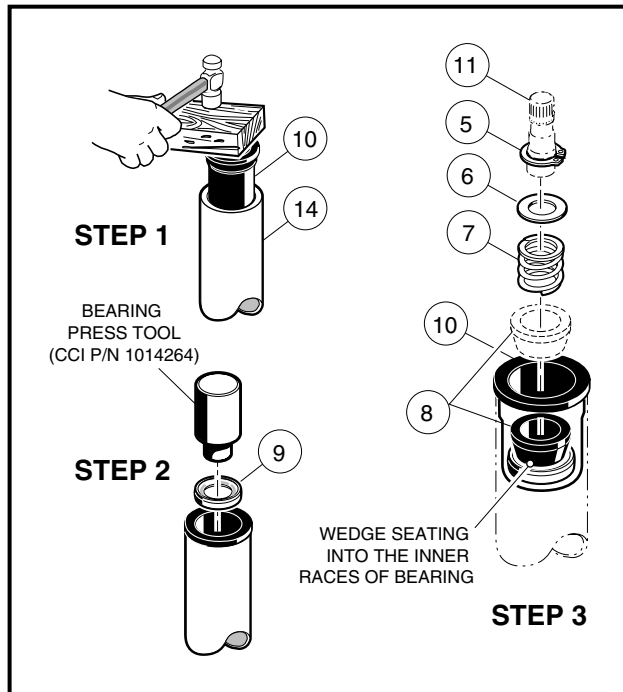
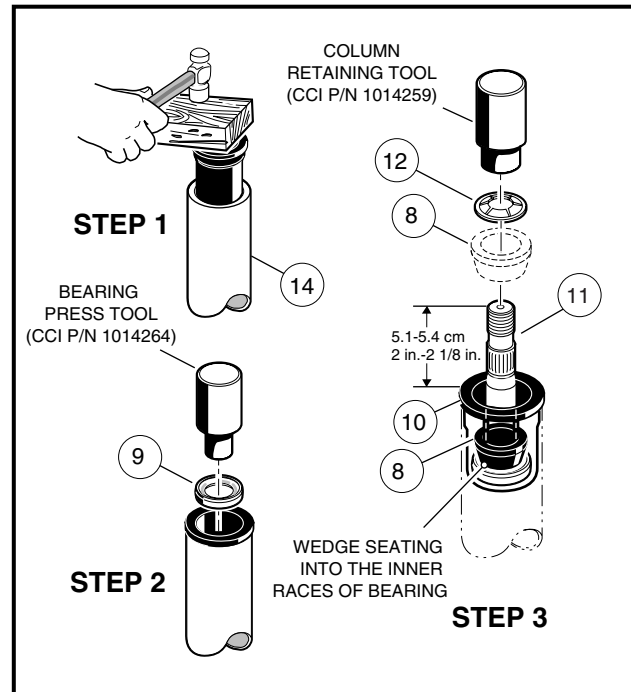

Figure 7-5 Steering Shaft – Bottom End
Figure 7-6 Steering Shaft – Top End
1. Insert bearing seat (10) into both ends of steering tube (14). Place a block of wood on bearing seat and tap lightly on block until bearing seat (10) is fully seated in steering tube (14) (**Figure 7-5, Page 7-5 and Figure 7-6, Page 7-5**).
2. Press the bearing (9) all the way into the bearing seat (10) using a steering column bearing press tool (CCI P/N 1014264) or a metal tube approximately six inches (15.2 cm) long with a maximum outer diameter of 1-3/16-inches (3.3 cm) and a minimum inside diameter of 7/8-inch (2.2 cm). Be sure the bearing is installed in the bearing seat as shown (**Figure 7-5, Page 7-5**) so the wedge (8) will ride against the inner race of the bearing.
3. Install the wedge (8), spring (7), washer (6) and snap ring (5) onto the bottom end of the steering shaft (11) (**Figure 7-5, Page 7-5**).
5. Turn the assembly over and place the shaft (11) on a bench. Install the wedge (8) and retaining ring (12) onto the top of the shaft. Be sure the prongs on the retaining ring face up and away from the wedge. Use a steering column retaining ring tool (CCI P/N 1014259) to seat the retaining ring to the proper depth. Support end of tube while pressing. If you do not have the recommended tool, use the same tube as was used in step 2 to press the retaining ring onto the top of the shaft. The retaining ring should be pressed onto the shaft until 2 to 2-1/8-inches (5.1-5.4 cm) of the shaft extends from the top of the bearing seat in the steering tube (**Figure 7-6, Page 7-5**).